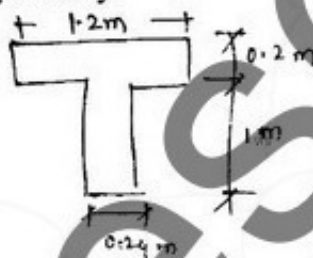

Fig.Q3
- 3 A prestressed concrete beam having a cross-section as shown in Fig.Q3 carries a uniform load of 12 kN/m due to its own weight at the initial stage over a span of 16 m. Determine the prestressing force and its eccentricity to produce net stresses equal to 0 and -12 N/mm^2 at top and bottom fiber respectively.